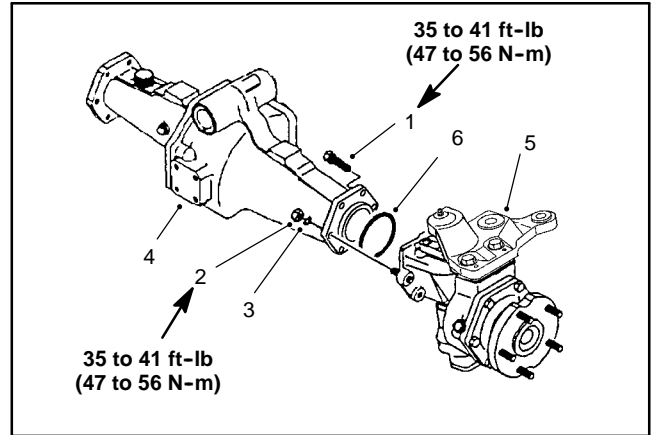

Figure 15
1. Remove the mounting screws, nuts and lock washers. Remove the bevel gear case/axle case assembly and O-ring from the axle support (Fig. 15).